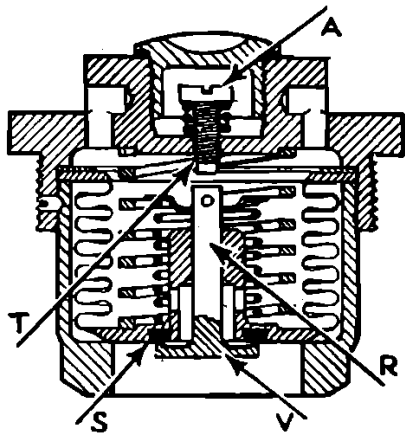
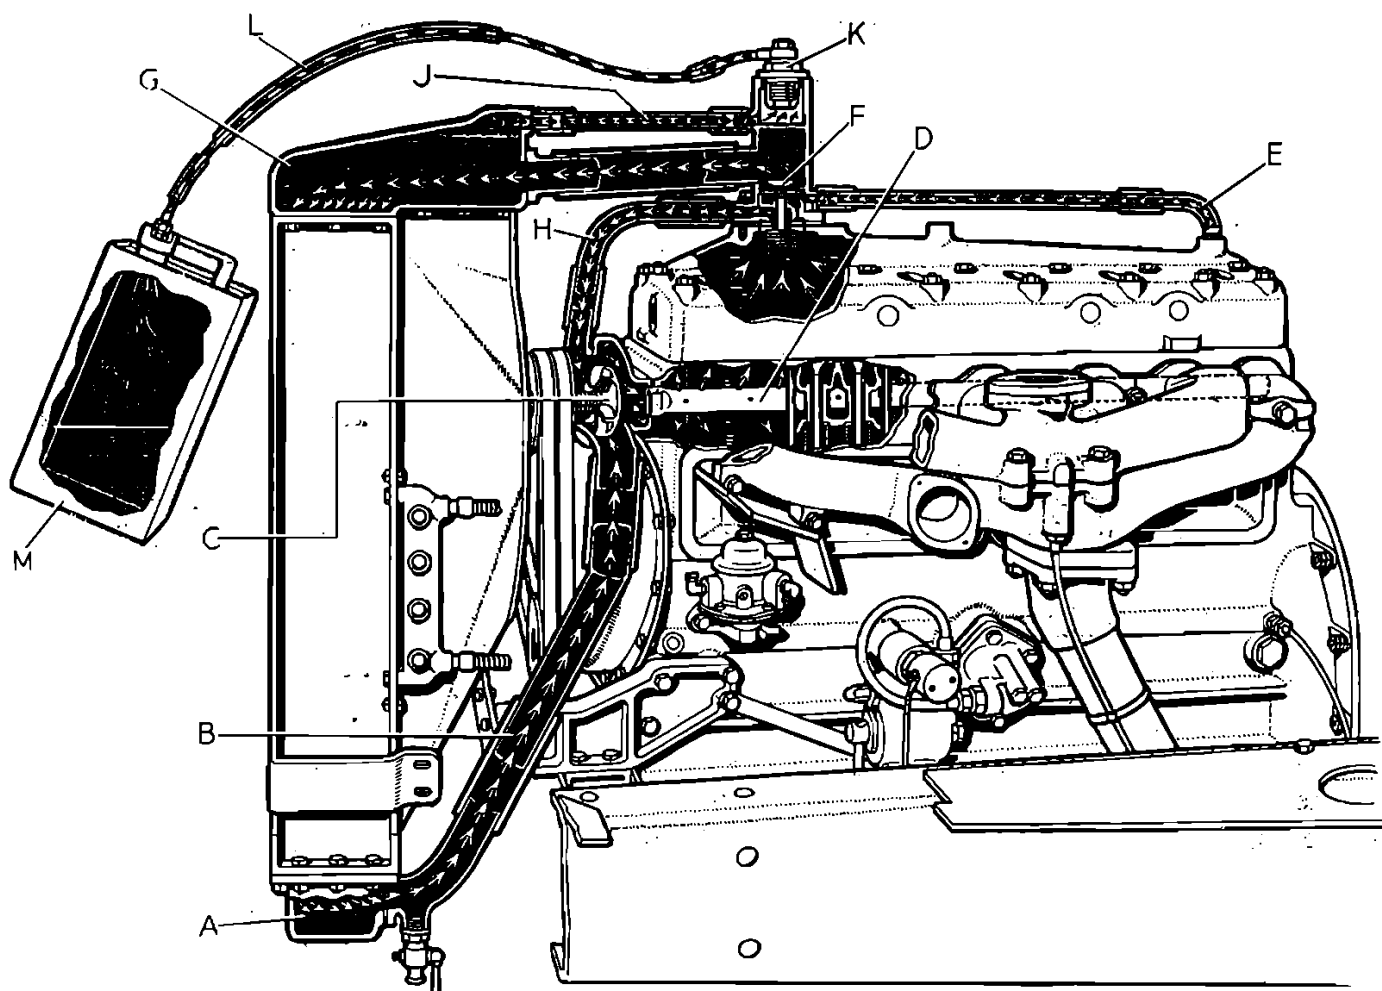

Figure 59
Figure 60. Water Circulating System
The layout of the cooling system is illustrated by Plate 11 and Fig. 60, to both of which reference should be made in order to understand the following explanation.
The water circulation arrangement is shown in detail on Fig. 60. As already mentioned, circulation is continuous whilst the engine is running, but it is necessary to increase the rate of flow by a pump. This is located at the timing cover end of the cylinder block and is of the impeller type.
The thermostat shown as (F on Fig. 60) is a device which enables the engine to reach its normal working temperature as quickly as possible and it establishes this condition by restricting the quantity of water in circulation. It consists of a mushroom shaped valve which is controlled by a flexible metallic "bellows" to which the valve stem is attached. This "bellows" contains a special fluid with an alcohol base and is therefore sensitive to temperature changes.
During the period of warming up, while the thermostat valve is closed, there is a tendency for the water pump to build up a pressure and this is relieved by the provision of a by-pass pipe (H Fig. 60) leading from the underside of the thermostat valve to the water pump.
Incorporated in the thermostat housing is a pressure loading valve (Fig. 59). Water under normal conditions of air pressure boils at 212° F, but this boiling point can be raised by about 20° F if the pressure under the cooling system is increased by approximately 5 lbs. per square inch.
The construction of the valve and its operation under pressure and vacuum conditions can be understood by reference to the accompanying drawing (Fig. 59). It will be observed that the valve seat is attached to the lower end of a flexible, metallic bellows, which is capable of contraction if pressure be applied from below.
Increase of pressure within the cooling system, acting upon the bottom of the valve (V Fig. 59), moves the valve and the seat (S Fig. 59) upwards until the valve stem (R Fig. 59) abuts on the adjustment stop (T Fig. 59), the projection of which can be varied by means of a screw (A Fig. 59), to pre-set the opening pressure.
Further increase of pressure forces the lower bellows-plate, carrying the seat (S Fig. 59) upwards, and the valve is thus opened to atmosphere, permitting steam to escape at the pre-determined pressure to the condenser can situated on the left rear mudguard through pipe (L Fig. 60).
Under vacuum, the valve (V Fig. 59) is forced downwards by atmospheric pressure away from the seat, again opening the valve to atmosphere and relieving the vacuum.
It will be noted that the pressure loading valve is situated at the highest point of the system and to prevent any possibility of a pocket of steam being formed in the radiator top tank, a pipe (J Fig. 60) runs between the highest point of the tank and the bottom of the valve, thereby allowing any pressure built in the radiator to escape. Similarly to prevent a like possibility in the cylinder head a pipe (E Fig. 60) is run from the back end of the cylinder head to the thermostat housing.
A pipe line (L, Fig. 60), is connected to the atmospheric outlet of the pressure loading valve, terminating in a condenser can (M), so that steam released by the valve is condensed, and the distilled water so collected can be re-used.